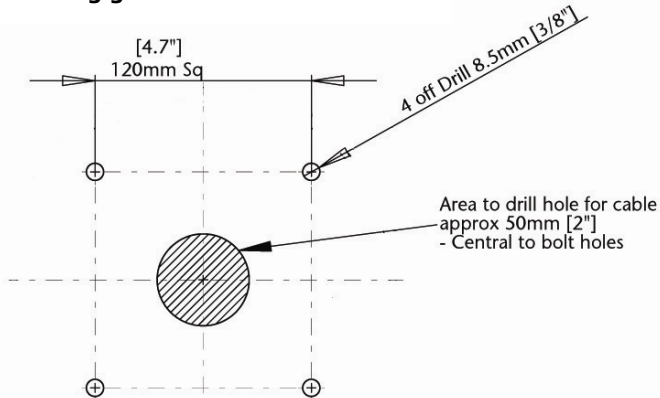

Figure 1
1. Drill the arch to match SC35 mounting hole pattern and central cable exit (**figure 1**).